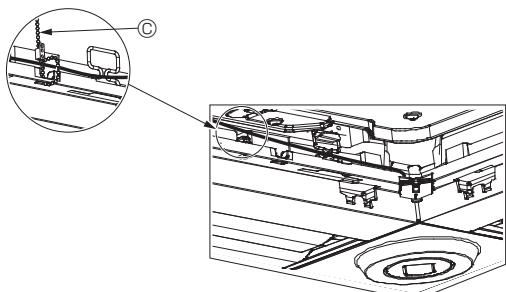

Fig. 10-12
- Secure the i-See sensor and signal receiver wires to the panel with the fastener as shown in the diagram so that there is no slack in the wires, and then cut off the excess end of the fastener. (Fig. 10-12)
- If the position of the i-See sensor was changed from the “○” position (E) to the “□” position (F), change the function settings. (Refer to page 11.)